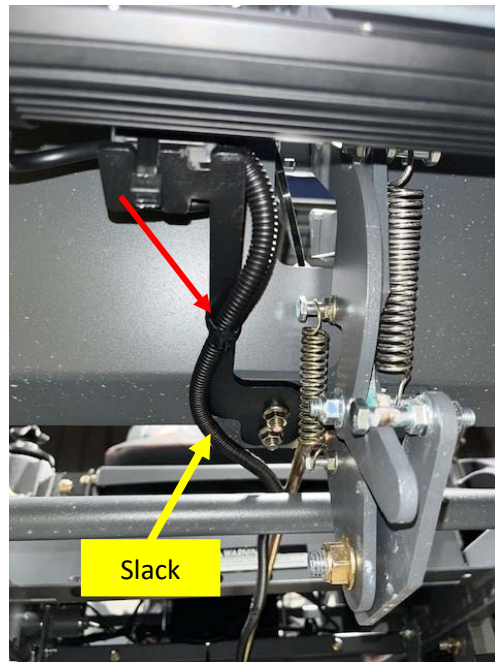

Figure 8
Note: Leave an adequate amount of slack in the harness between the break rod and Fair Rite for brake rod travel. Test before returning to service and adjust as required. (Figure 8)
- Using the smaller zip-tie, secure the harness to the bracket. (Figure 8)